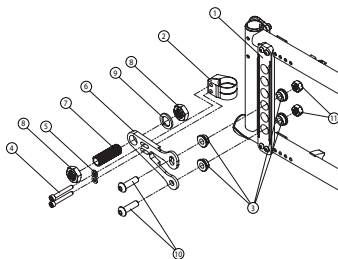

Fig. 42.1
- Install mounting plate (1) (Fig. 42.1) by bolting it to the frame.
- Install the back clamp (2) onto the rear of the frame.
- Insert 4 amputee plate adapters (3) on the mounting plate (1) at the desired position.
- Insert both bolts (4) and washers (5) into the back clamp (2) through amputee plate (6) and tighten.
- Insert axle bushing (7) through the amputee plate and insert nuts (8) and lock washer (9)
- Insert 2 bolts (10) through the mounting and amputee plate (1 and 6) and tighten with lock nuts (11).